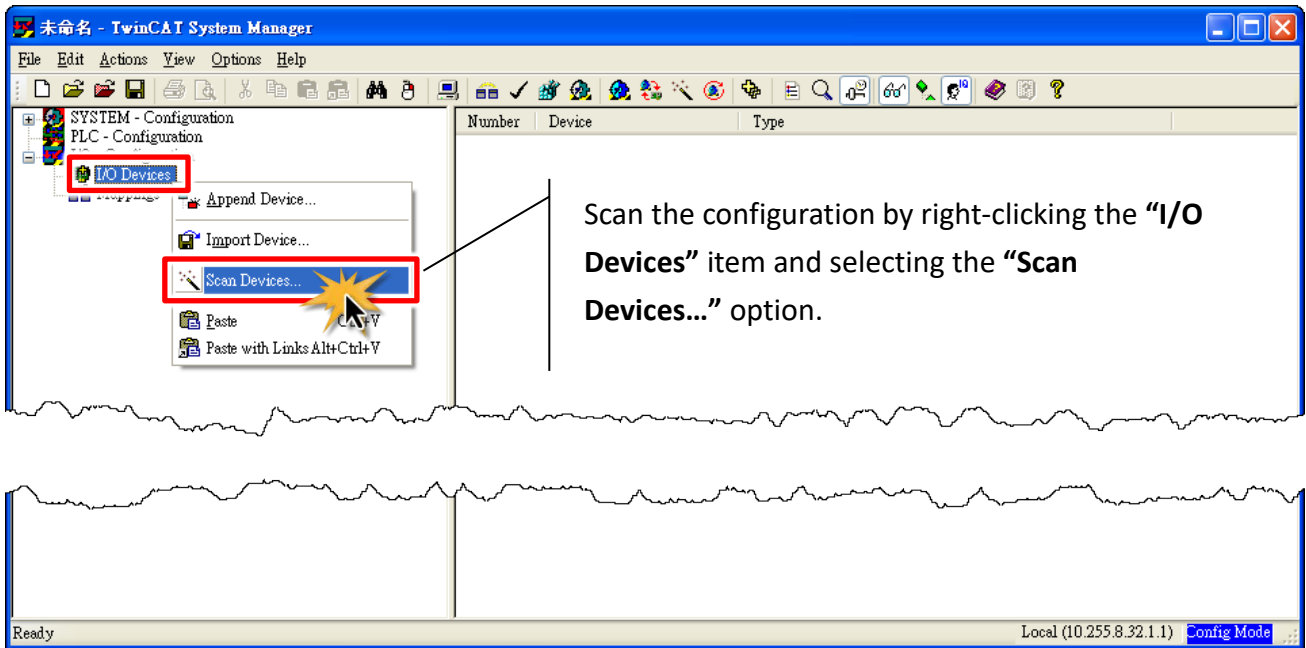

Figure 3-2.1
① Switch on the operating power supply, launch the TwinCAT System Manager (Config mode), and scan in the devices, as illustrated in the Figure 3-2.1 below.